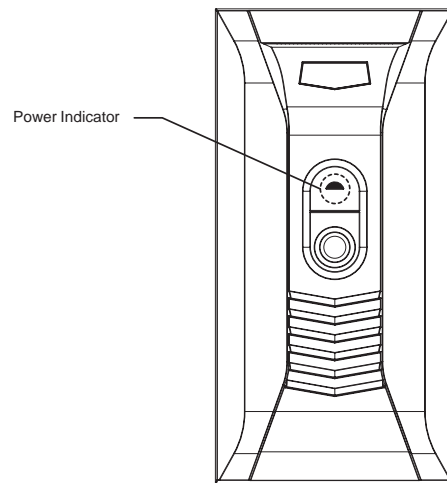

Fig. 8 - Power Indicator
- d. The power indicator light above the Air Purifier power switch should illuminate (see Fig. 8).
The Perfect Air™ Purifier is equipped with a power indicator light located on the door (see Fig. 8). This power indicator light will illuminate when the Perfect Air™ Purifier door is installed, the power switch is in the on position, AND the furnace blower is running. If the power indicator light is not illuminated, follow the troubleshooting steps below.